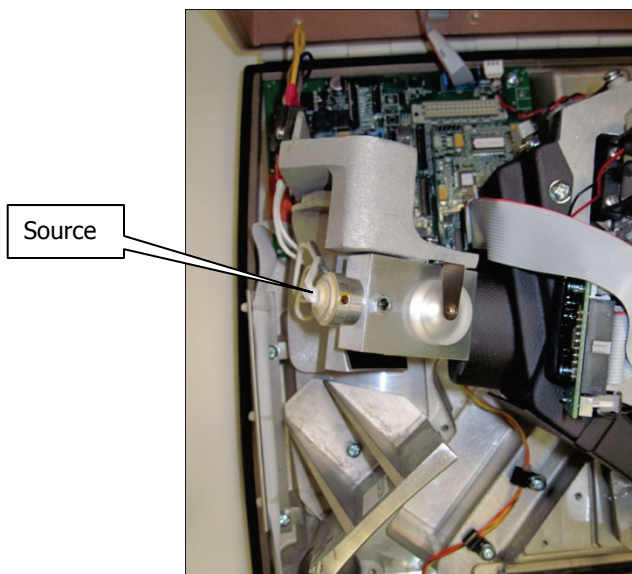

Figure 41 Source location
1. Open the main cover of the instrument as detailed on page 70 and identify the source (Figure 41).